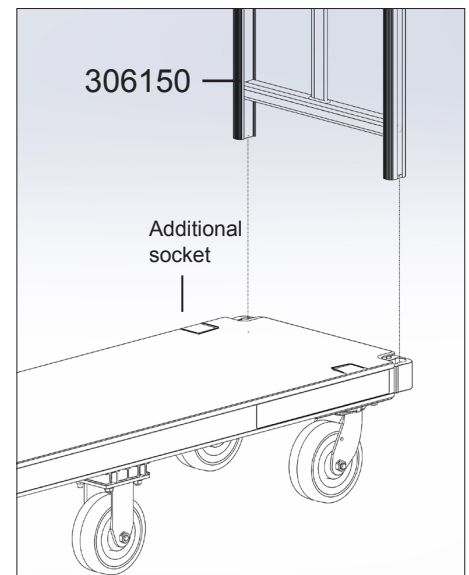

Figure 6
Note: If you have the soft drink model, you will only install 3 sets of hardware for each caster on the end of the deck with the additional end rack sockets as shown in Figure 6. All other casters use 4 sets of hardware. Extra hardware can be discarded.
3. Position the handle as shown in Figure 6 and insert it into the sockets of the deck.